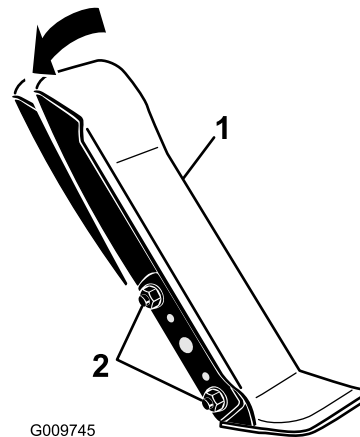

Figure 83
1. Loosen the 2 nuts and bolts securing the left side of the traction pedal to the bracket (Figure 83).
2. Pivot the pedal to the desired operating angle and tighten the nuts (Figure 83).